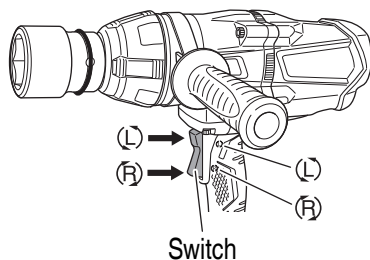

Fig. 3
1. Operation of switch (**Fig. 3**)